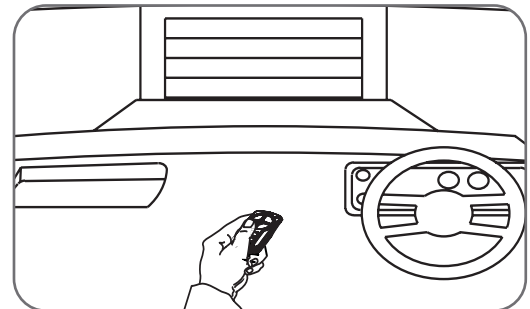

Fig.7.1.1
- Press the programmed transmitter button or HomeLink® until your door begins to move (usually 2 seconds). Make sure you can see the door when you use the transmitter (**Fig 7.1.1**).